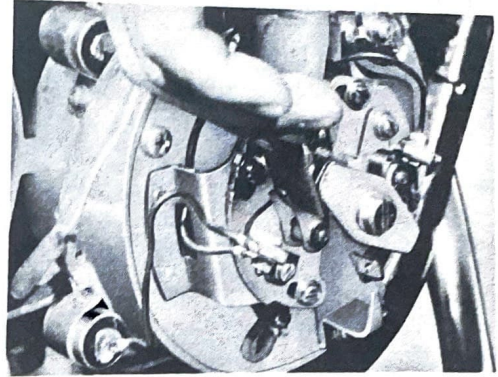

Fig. 6-5-13
- b. Smooth out any scratch on the points with fine sandpaper (#400 ~ 600), and then wipe it with dry cloth. (Fig. 6-5-13)